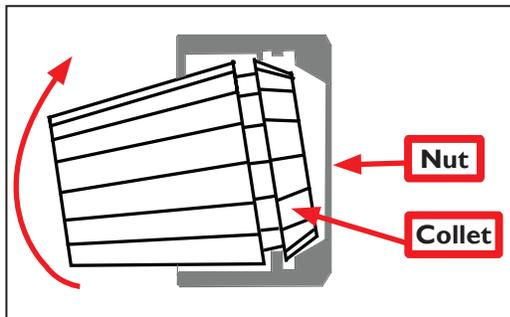
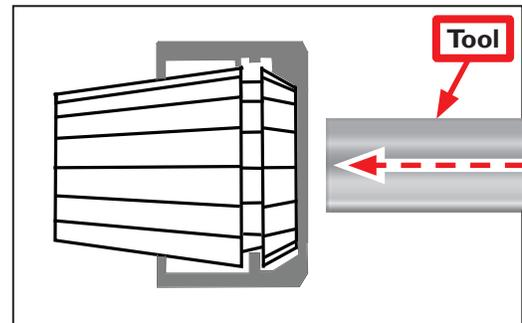

Figure 28
Figure 29
1. Holding collet at an angle (see **Figure 28**), tip collet to snap it into place as shown in **Figure 29**.